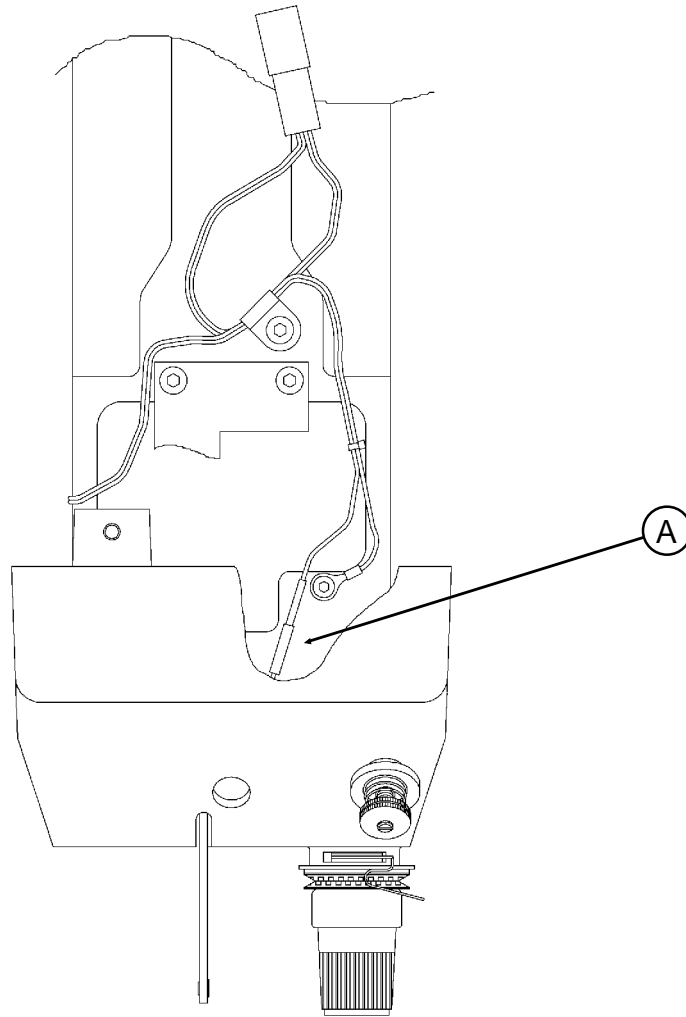

Figure 1
4. Unplug the Thread Break Cable (Figure 1-A) from the Needle Case.